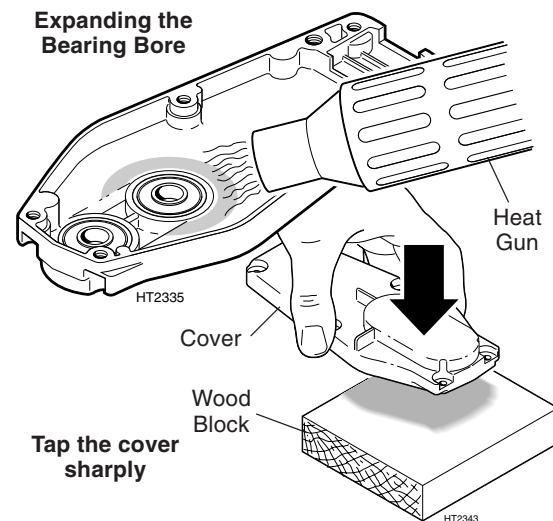

Figure 18. Removing gearcase-cover bearings.
STEP 1. Use a heat gun or similar appliance to warm the gearcase cover bearing bores to approximately 212°F (100°C), and then remove the two cover bearings by tapping the cover face down sharply against a flat wooden surface (Figure 18).